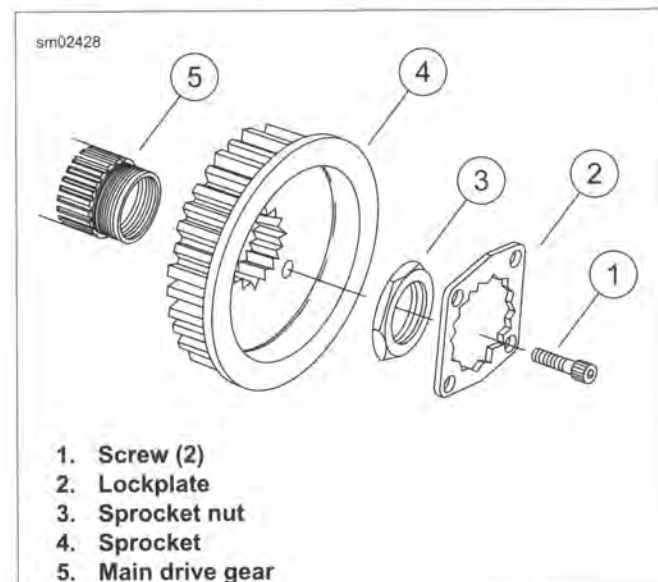

Figure 5-40. Transmission Sprocket
3. See Figure 5-40. Remove two screws (1) and lockplate (2).
3. See Figure 5-40. Apply a thin film of clean engine oil on the inner face of the sprocket nut (3) and the outer face of the sprocket (4) where the two parts contact each other. Install the sprocket nut finger-tight.
11. See Figure 5-40. Install two screws (1) to secure lockplate (2). Tighten to 90-120 in-lbs (10.2-13.6 Nm).